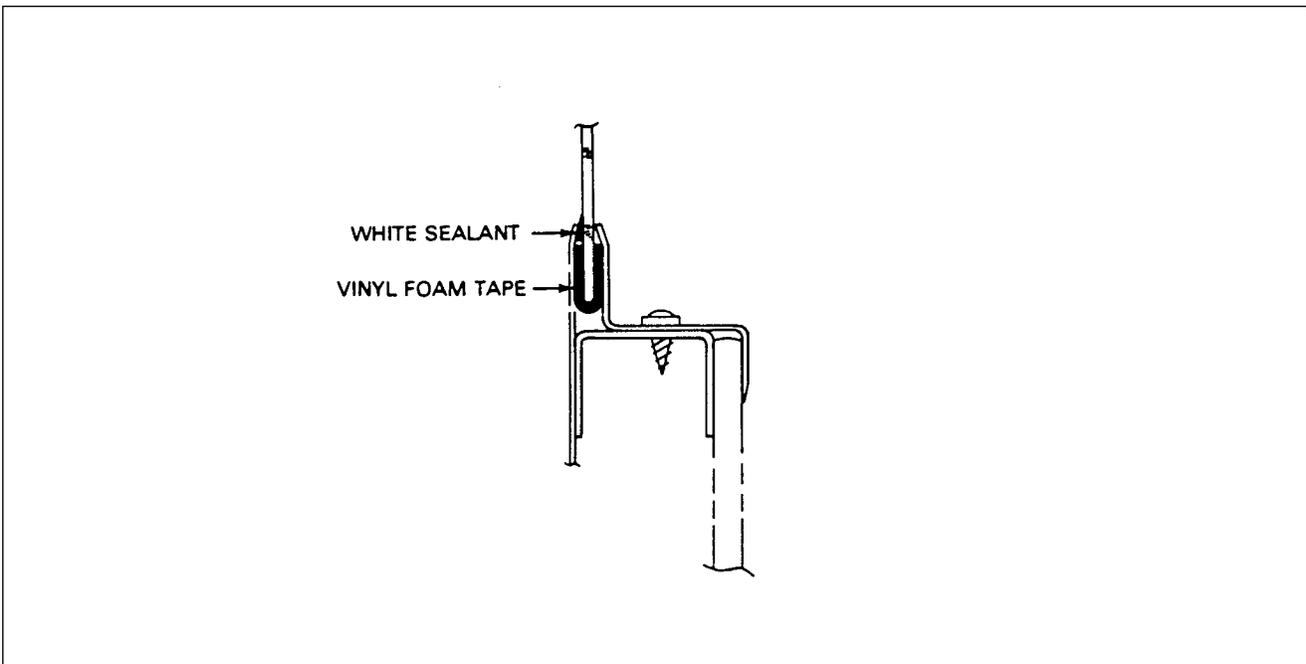

Figure 56-2. Side Window Installation, Single Pane (Typical)
**INSTALLATION OF SIDE WINDOWS** (figure 56-2)